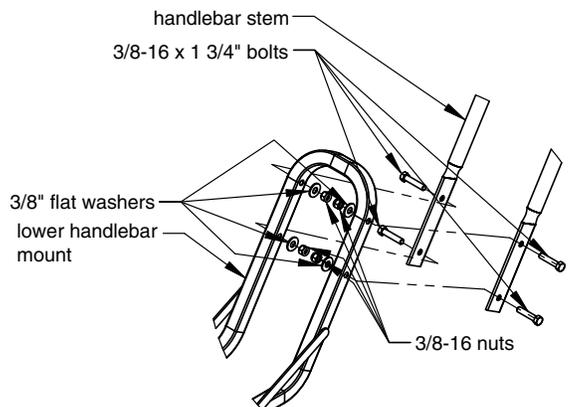

FIGURE 1A
1. Place handlebar stems on outside of lower handlebar mount and align lower holes. (SEE FIGURE 1A)